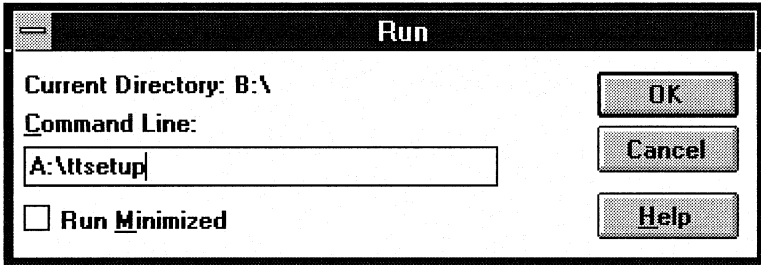

fig. A-2
5. Type `A:\ttsetup` in the command line field (fig. A-2) and click OK.